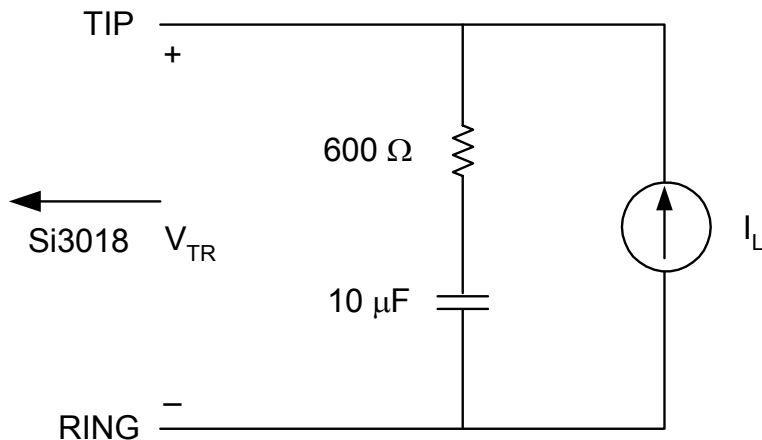

Figure 1. Test Circuit for Loop Characteristics
($V_D = 3.0$ to 3.6 V, $T_A = 0$ to 70 °C for K-Grade, see Figure 1)
- Measured at TIP and RING with 600 Ω termination at 1 kHz, as shown in Figure 1.
2. Measured at TIP and RING with 600 Ω termination at 1 kHz, as shown in Figure 1.